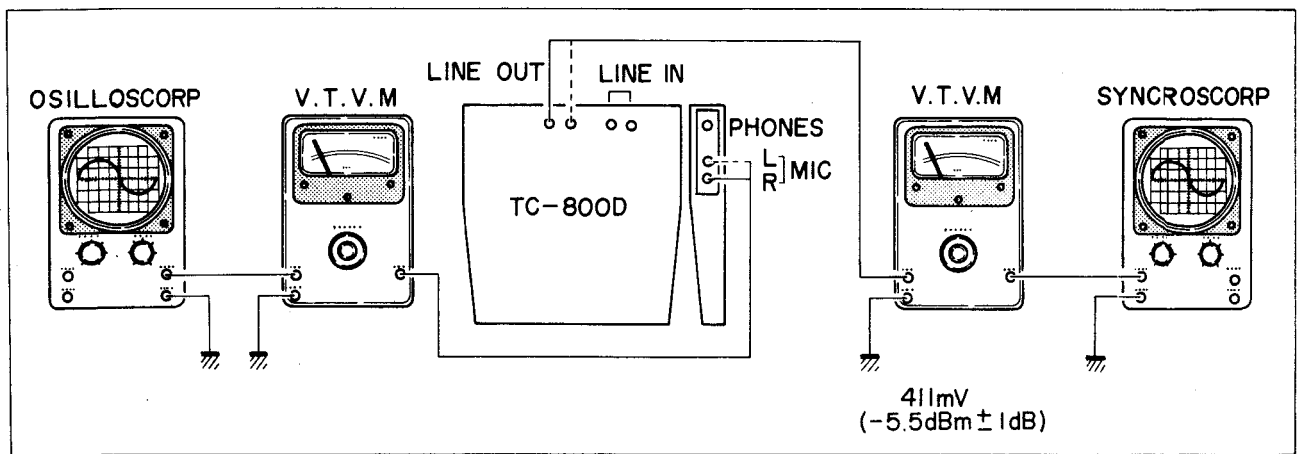

Fig. 7
- Set the output of the LINE OUT terminal at 411mV (-5.5 dBm) and make recording by applying 1KHz signal to the MIC input. shown in Fig. 7.